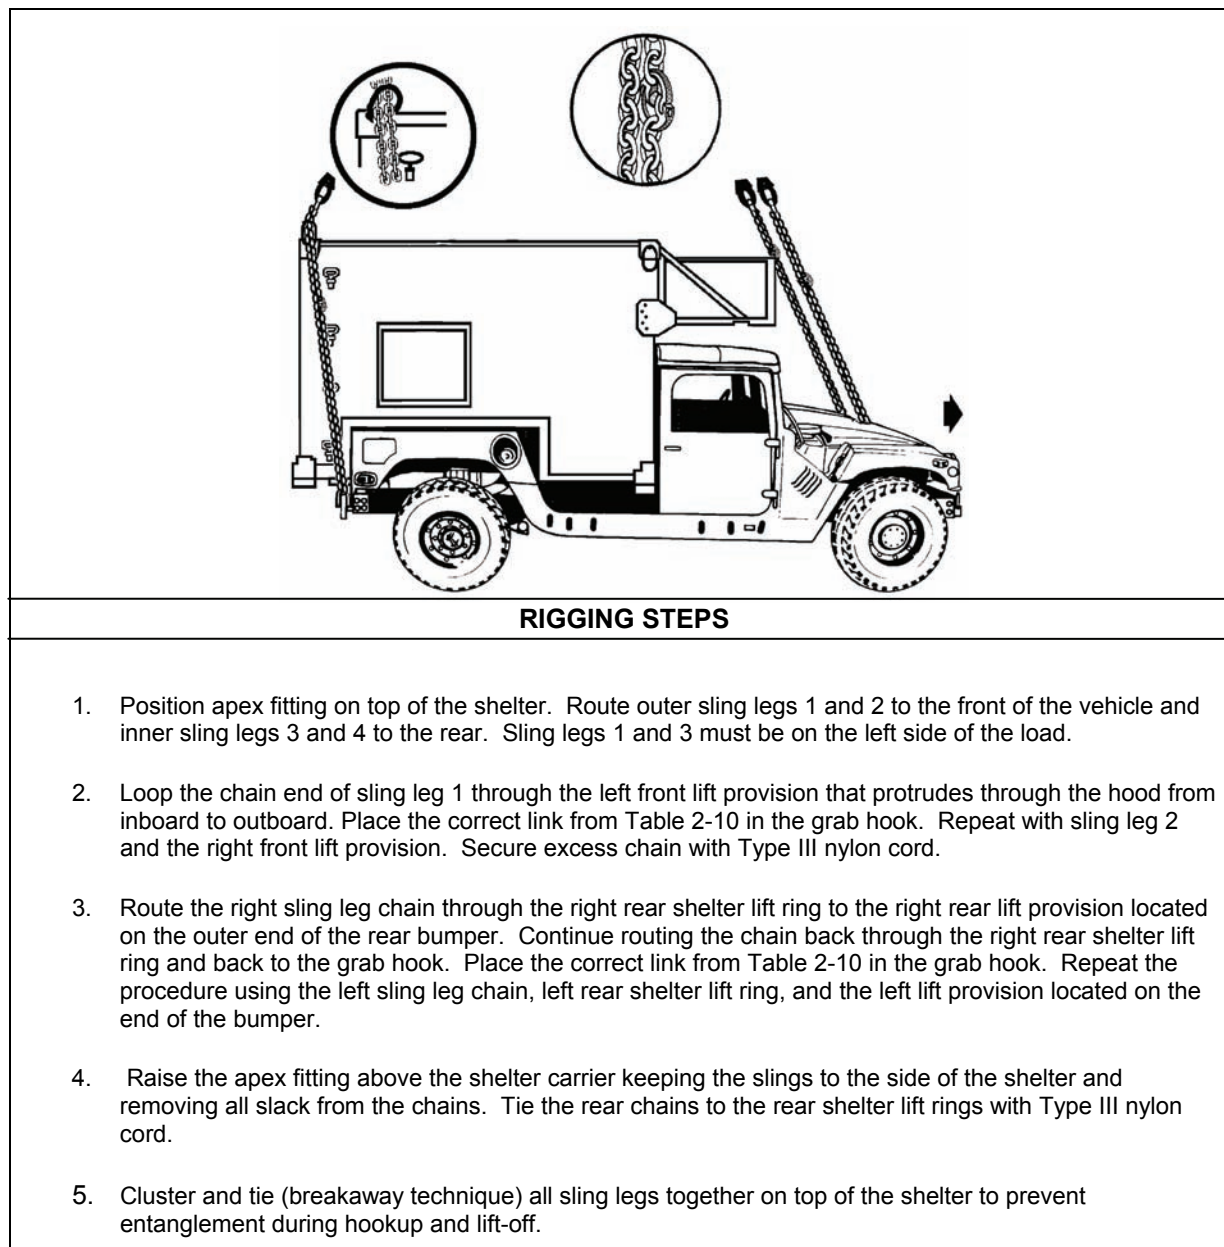

Figure 2-10. LMS Shelter Mounted on M1097A2 Using Shelter Lift Rings as Sling Guides
- **Rigging.** Rig the load according to the steps in Figure 2-10.